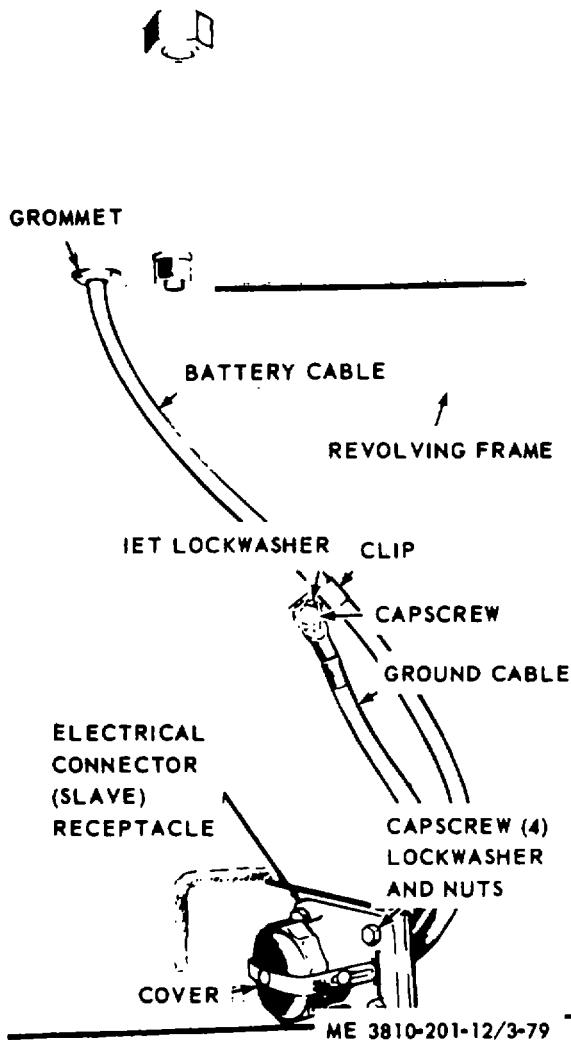

Figure 3-66. Receptacle (slave) electrical connector, removal and installation
(1) Remove capscrew, lockwasher, and ground cable (fig. 3-66).
(2) Remove nut (7, fig. 3-64) and electrical lead (8) then remove clip and grommet (fig.3-66).
(3) Remove capscrews (4), lockwashers, nuts, and receptacle (slave) electrical connector.
(4) Install by reversing steps (3) through (1) above.